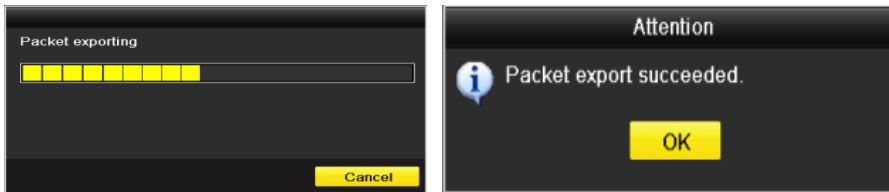

Figure 13-27 Packet Export Attention
Step 5 After the exporting is complete, click **OK** to finish the packet export, as shown in Figure 13-27.